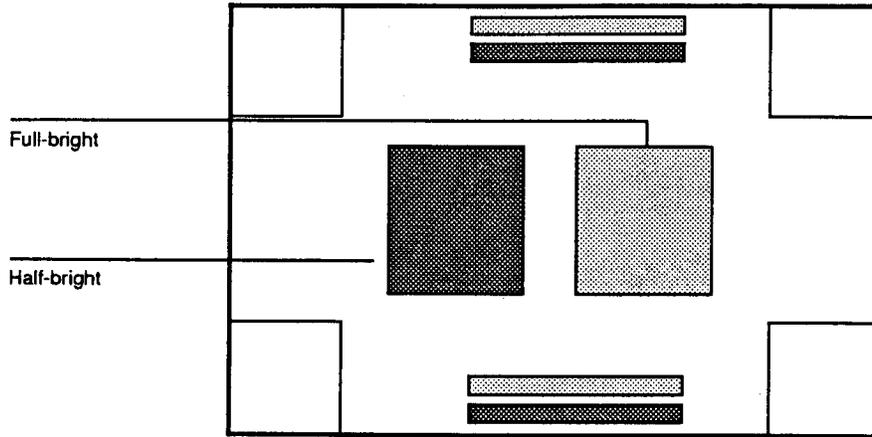

Figure 4-14. CRT Diagnostic Test Pattern
6. Observe that a CRT test pattern similar to *Figure 4-14* is displayed.